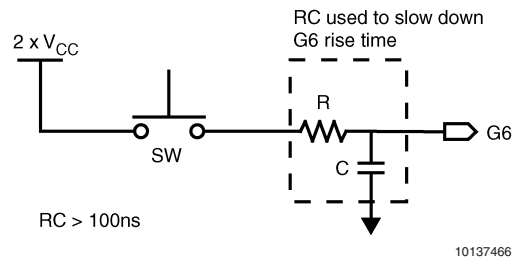

FIGURE 14. Circuit Diagram for Implementing the $2 \times V_{CC}$
4. After V_{CC} is valid and stable, connect a voltage between $2 \times V_{CC}$ and $V_{CC}+7V$ to the G6 pin. Ensure that the rise time of the high voltage on G6 is slower than the minimum in the Electrical Specifications. *Figure 14* shows a possible circuit diagram for implementing the $2 \times V_{CC}$. Be aware of the typical input current on the G6 pin when the high voltage is applied. The resistor used in the RC network, and the high voltage used, should be chosen to keep the high voltage at the G6 pin between $2 \times V_{CC}$ and $V_{CC}+7V$.